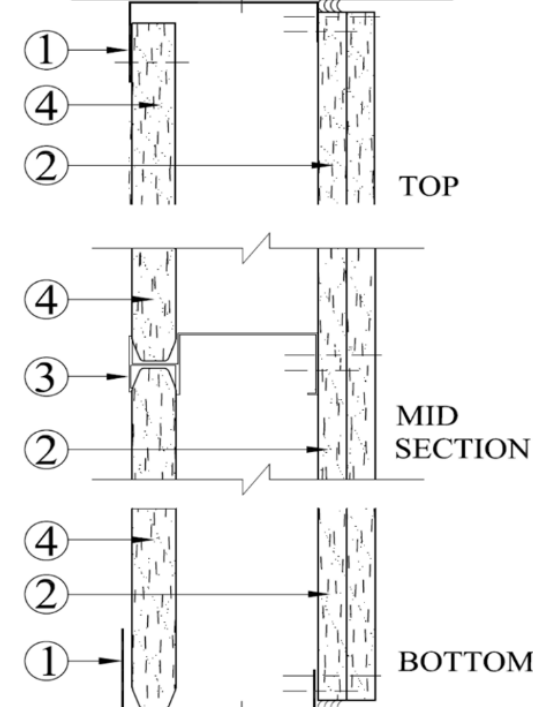

Figure 6 - Two Hour Horizontal Stud Shaft Wall Assembly (Non-Load Bearing)
Sheetrock® Brand Firecode® X Panels- UL Type SCX have been tested to generate the shaft/stair wall limiting heights for the wall assembly described by Figure 6. Panels are available 5/8-in thick, 48-in or 54-in wide and lengths up to 14-ft. Product must be ULULC Classified for fire-rated construction (Type SCX) and must meet the requirements of ASTM C1396.
Two-Hour Horizontal Stud Shaft Wall Assembly (Non-Load Bearing). See Figure 6
2. See Figure 6 for horizontal stud installation details within shaft/stair wall. The horizontal wall width is limited to the length of the Gypsum Liner Panel and only 400CH20-34 and 600CH20-34 steel studs are permitted for horizontal stud installations.